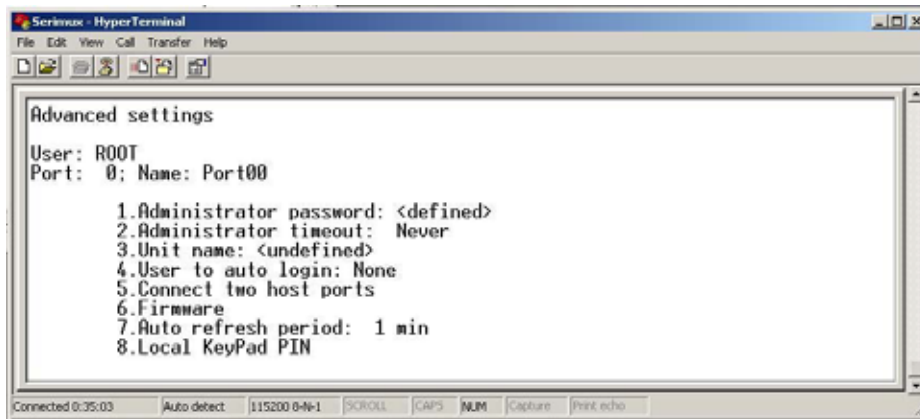

Figure 18- Administrator's Advanced settings menu
- press [7] to choose Advanced settings and press [Enter]. The Advanced settings menu will appear (Figure 18)